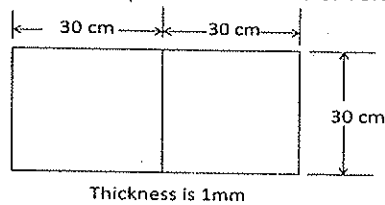

Fig.6
13. (b) Find the shear flow and twist per unit length of the two cell structure shown Fig.6. The material used is Aluminium with $E = 70 \text{ GPa}$ and poisson's ratio = 0.3. Torque is 75 KN-mm in clockwise direction.